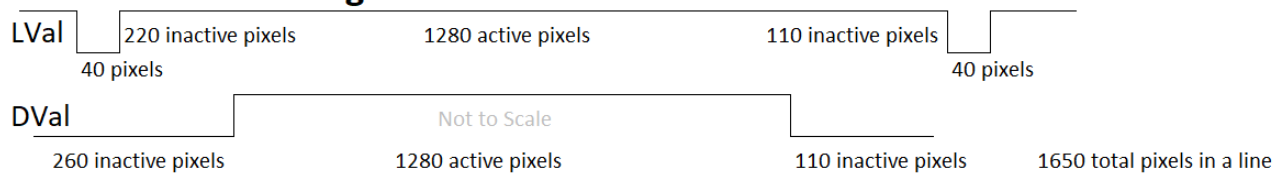

Figure 1: Timing Diagram for 720P60
- DVal - Data Enable (for FPD-Link) or Data Valid (for Camera Link). Data Valid (CL) can indicate that individual pixels are not valid for the video. Data Enable signal (FPD) is high for all valid pixels in a row. The DVal output of the 1750 LVDS output is different from Data Valid as described in the Camera Link specification. See Figure 1
The timing diagram for 720P60 is shown in Figure 1. The timing/blanking values can be correlated with the values shown in Table 1. For other resolutions the format of the data timing is the same and can also be derived from the same table.